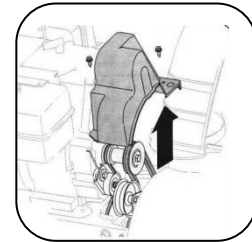

Figure 17
1. Remove the belt cover in the front of the engine by removing the two self-tapping screws. See Figure 17.